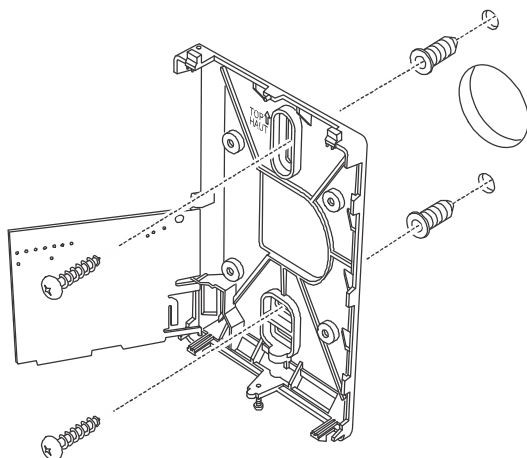

Figure 4: Mounting the Sensor Base
5. Use the supplied anchors and screws for mounting on drywall or plaster. Drill two 3/16 in. (4.7 mm) holes at the marked locations and tap nylon anchors flush to wall surface (see Figure 4).